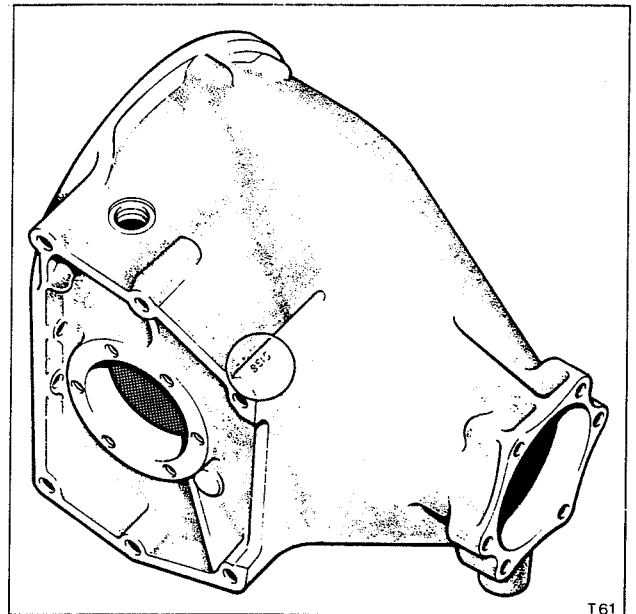

Fig. J8m Stamped dimension on final drive casing
4. Note the dimension stamped on the final drive casing (see Fig. J8m) then place the casing in an oven having a temperature of 110°C. (230°F.) for approximately thirty minutes.